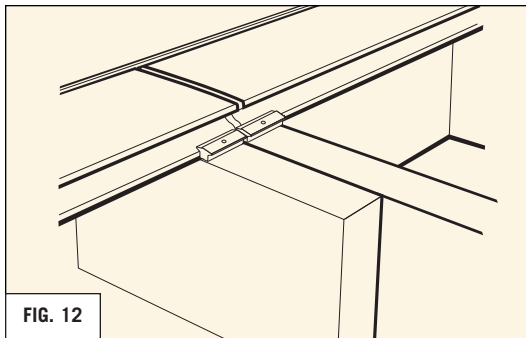

FIG. 12
- Deck board ends should lie on a full joist width. Wherever two deck boards are butted end-to-end, a double joist thickness is required with a **separate fastener** for each board. (REFER TO FIG. 12)
- If you wish to stagger the deck board ends to achieve a random-looking pattern of deck boards, double joist thicknesses are required at each end-to-end joint. (REFER TO FIG. 12)
Note: If installing two boards end-to-end, double joists are required and separate clip fasteners are required for each board. (REFER TO FIG. 12)